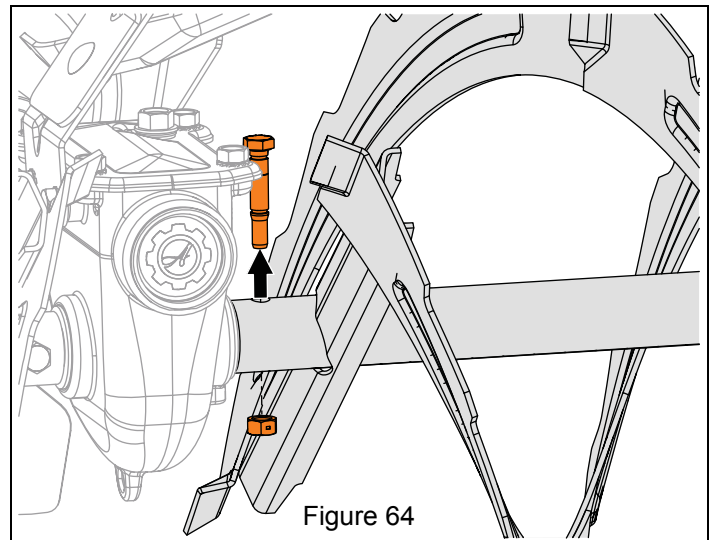

Figure 64
10. Remove shear bolt from auger shaft. See Figure 64.